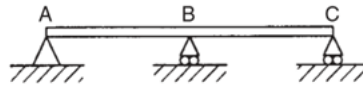

Figure 1
- (a) Determine the degrees of statical and kinematic indeterminacy of the beam ABC shown in Figure 1. [7M]